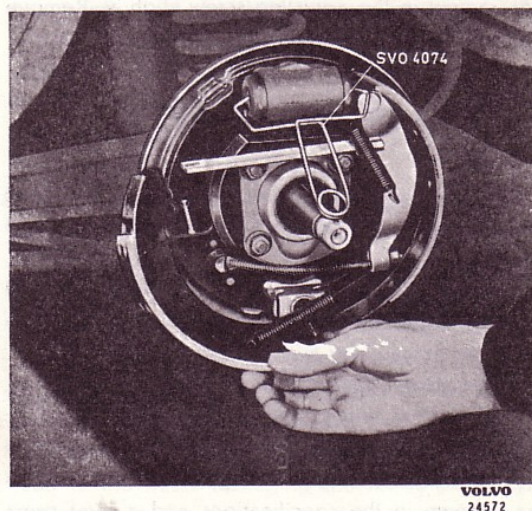

Fig. 22. Removing the brake shoes.
3. Place clamp SVO 4074 over the wheel unit cylinder so that the plungers cannot be pressed out. Remove the upper return spring with the help of brake spring pliers. Pull down the front shoe into the groove in the brake backing plate, hold against the guide pin on the other side of the backing plate and turn and then remove the locking washer. Lift out the shoe, see Fig. 22.